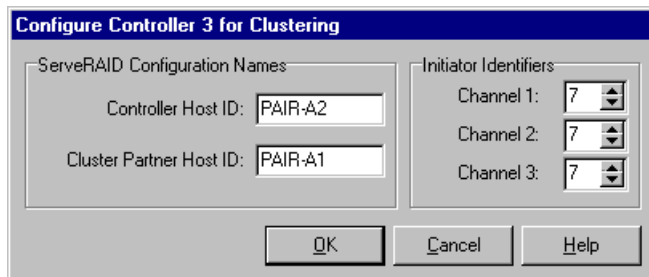

Figure 63. Configuring the second adapter
15. Change the Controller Host ID and Cluster Partner Host ID values to be the reverse of those you specified in step 12. In our case, these are set to PAIR-A2 and PAIR-A1, respectively. Ensure the Initiator Identifiers are set to 7 for each channel. Your configuration window should be similar to Figure 63: